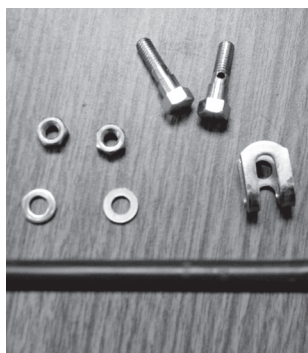

FIGURE 1 – Components
To begin you will have eight (8) key components to install the shift cable to your Dodge A1 Series PTO. Refer to the list of materials and Figure 1 to make sure that you have all the required components.
- One (1) Clamp
- Two (2) M6 Nuts
- Two (2) Bolts
- Two (2) Washers
- One (1) Cable